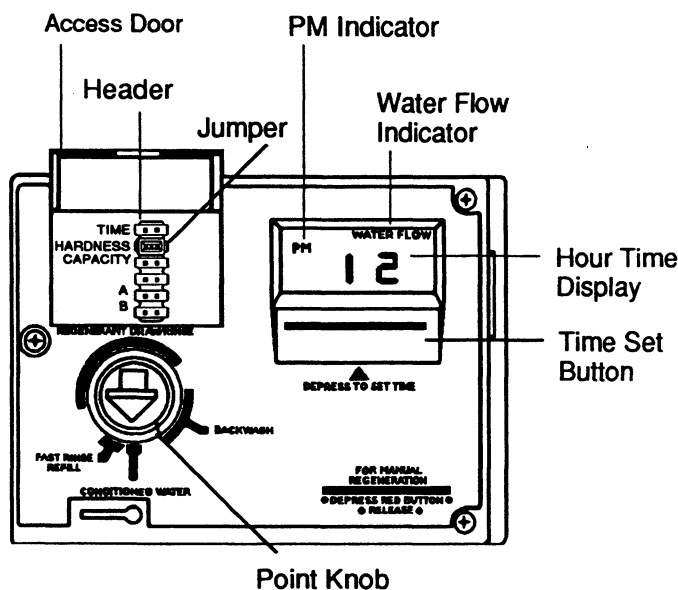

Figure 8
Note: The following steps will require your turning the red pointer knob, (Figure 8), to various positions. Insert a wide blade screwdriver into arrow slot in pointer knob and press in firmly. With knob held in, rotate COUNTERCLOCKWISE only until arrow on knob points to desired position. (Rotation is made much easier if you grasp the camshaft with your free hand and turn it at the same time.) Then permit knob to spring back out.
2. Insert screwdriver into slot in pointer knob, (Figure 8). Press in and rotate knob COUNTERCLOCKWISE until arrow points directly to the word BACKWASH.
2. Open the access door by inserting a small screwdriver into the small opening at the bottom of the door and gently pry up (Figure 8).